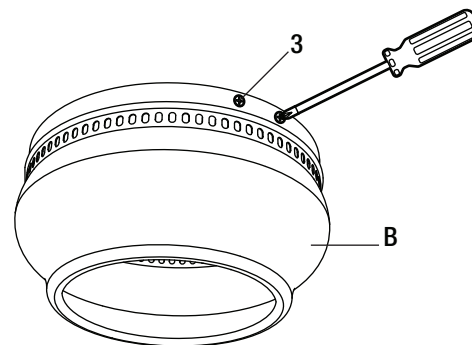

Figure 9
- Fix the motor housing (B) onto the supporting bar (A) using the four screws (3) preassembled to the supporting bar (A) (Figure 9).